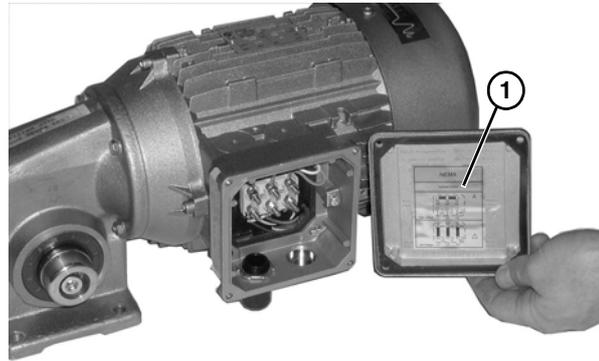

Figure 14
2. Refer to the wiring diagram (Figure 14, item 1) on the inside of the junction box cover.